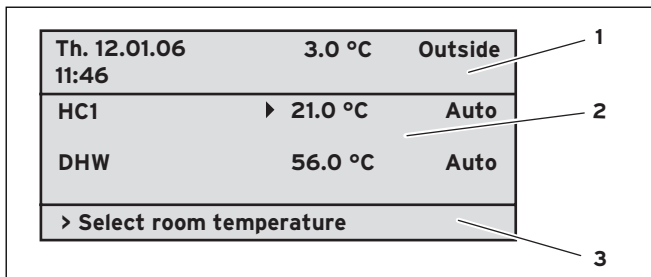

Fig. 4.2 Display overview (example, basic display)
- Basic display (Fig. 4.2)
The operating concept described below applies to the basic display (Fig. 4.2) and to the various different display/input screens of the user level.
Initial condition: You are located in the basic display (see Fig. 4.2). A description of how to navigate to the basic display is provided in Section 4.3.3.
You can navigate from the default display to the next screen by clicking one or both dials (see Fig. 4.2).